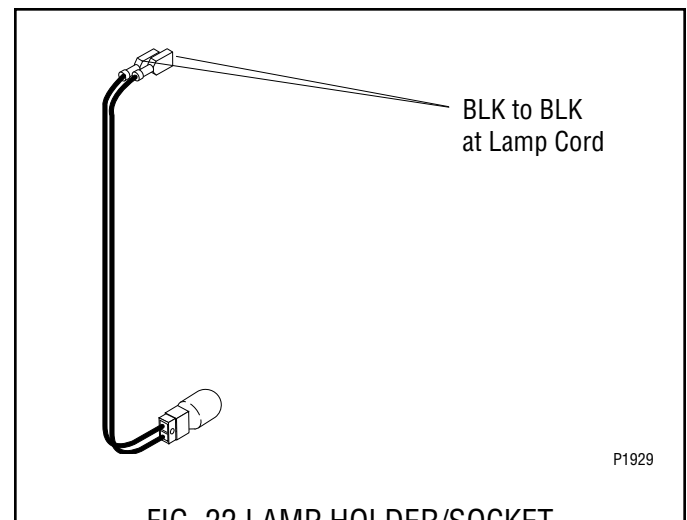

FIG. 22 LAMP HOLDER/SOCKET ASSEMBLY WIRES
14. Refer to Fig. 22 when reconnecting the wires.